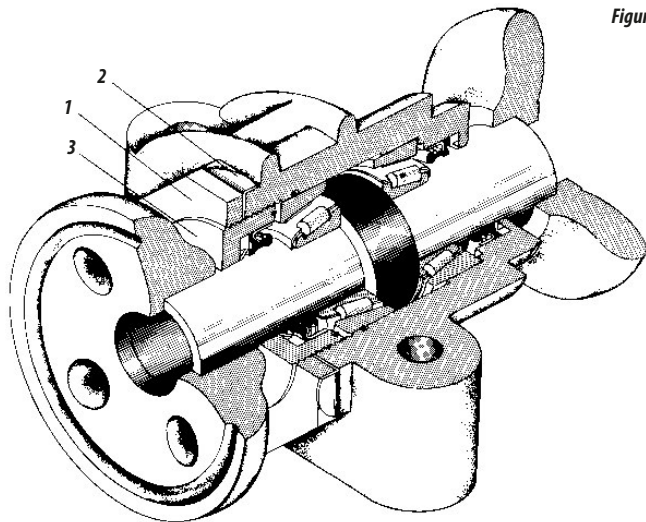

Figure 15
- 02 -Loosen the nut Item 1 Figure 15, remove the lock item 2, and adjust the bearings by tightening the cover item 3, taking into account that the bearing should not work too tight not to wear excessively the bearings.
- 03 -Replace the lock item 2, the nut item 1 and retighten it.